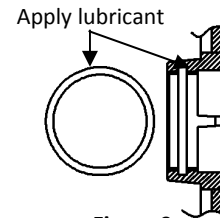

Figure 9
9. Using the o-ring seal and lubricant bag, ensure the o-ring and coupling are well lubricated. Insert the o-ring, ensuring it does not twist. See **Figure 9**.